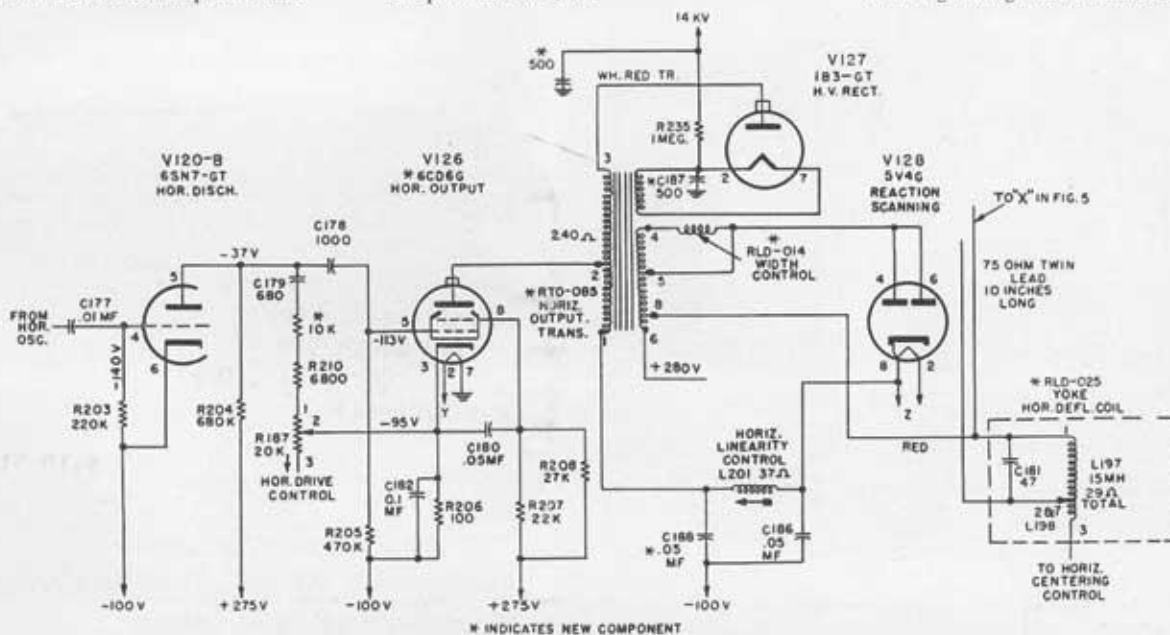
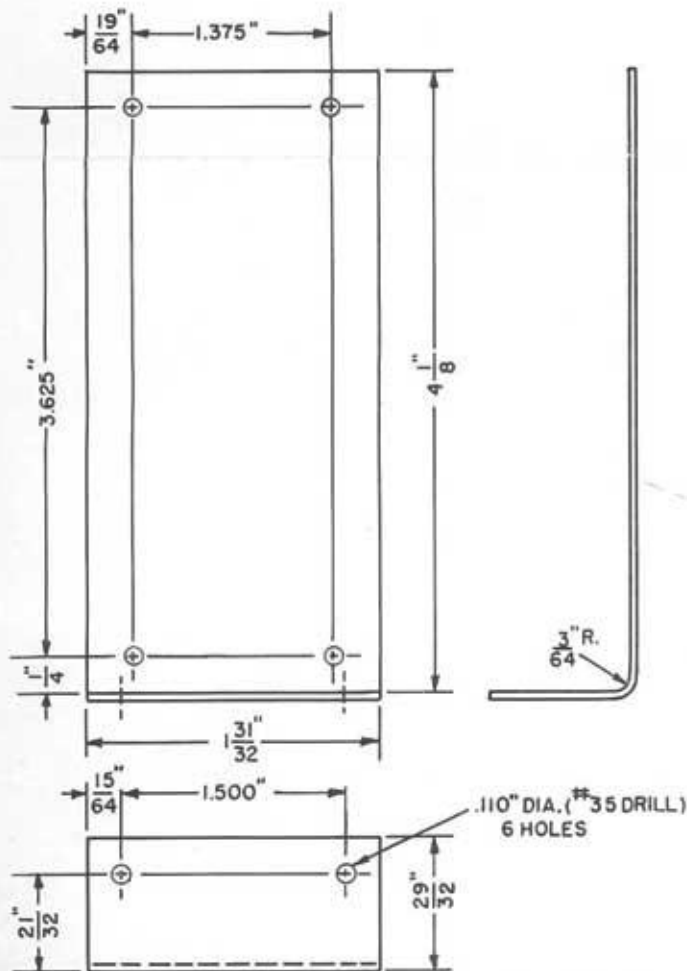
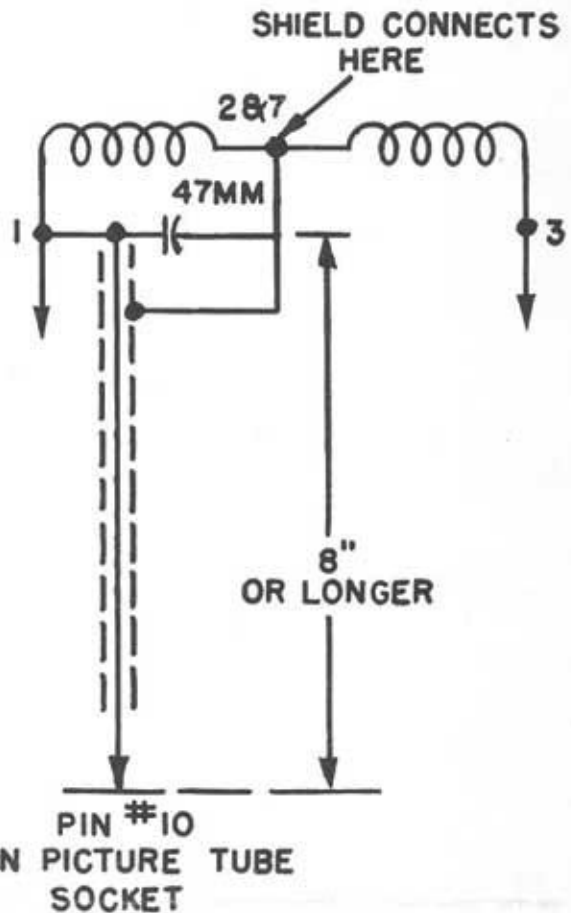

Figure 2. Horizontal output and HV section of RCA 630TS showing the changes made to use a General Electric 20CP4 picture tube.
Figure 3. Dimensions of bracket used to mount General Electric RTO-085 horizontal sweep transformer to side of HV compartment.
Figure 4. Horizontal retrace elimination circuit used when insulated shielded cable is used in place of 75 ohm twin lead.
The circuit used in this model has also been used in a considerable number of other receivers. Therefore the same circuit changes which were used on this model should also work on other receivers using the same type circuit. While making the conversion both horizontal and vertical retrace elimination circuits were added. The horizontal retrace elimination circuit consists of a piece of 75-ohm twin lead connected as shown in Figure 2. This eliminated a slight foldover which appeared at either side depending on the adjustment of the horizontal hold control. The vertical retrace elimination circuit consists of one .02 mfd and one .05 mfd 600-volt capacitors and one 2700-ohm and one 4700-ohm one-watt resistors connected as shown in Figure 3. This eliminated the vertical retrace lines which allowed the brightness control to be advanced beyond the point where these retrace lines normally appeared.
4. The original horizontal sweep transformer was removed and replaced with a General Electric RTO-085 and connected as shown in Figure 2. This was mounted to the side of the HV cage with an angle bracket bent and drilled as shown in Figure 3. If you do not have suitable material available to make this angle, the transformer can be mounted to the chassis with ordinary machine screws. If this method of mounting is used new holes will have to be drilled in both the transformer and the chassis. The 1B3-GT filament dropping resistor R233 was removed. A resistance check should be made of R235 in the HV lead, and if the resistance is off more than ten percent, it should be replaced.
5. The 500 mmfd capacitor was replaced with one having a 20 KV rating, and a second 500 mmfd 20 KV capacitor was connected between the chassis and the output end of R235 as shown in Figure 2. If a 20CP4-A or one of the twenty-one inch tubes having an external conductive coating is used, the second 500 mmfd filter capacitor can be omitted since this conductive coating acts as a filter capacitor when grounded.
7. The original width coil was removed and replaced with a General Electric RLD-014 which was connected as shown in Figure 2. This was mounted in an enlarged hole on the original mounting bracket.
11. A ten-inch piece of 75-ohm twin-lead was connected across capacitor C181 as shown in Figure 2. This capacitor is across a portion of the horizontal coils in the deflection yoke. If 75-ohm twin-lead is not available a piece of outside insulated shielded wire can be used. This type wire should be connected as shown in Figure 4. Be sure that the wire which originally supplied 275V to pin 10 on the picture tube is removed from the 275V source as described above in step No. 2.